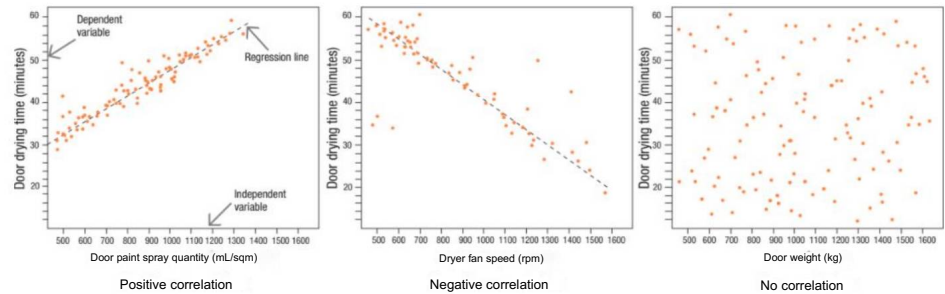

FIGURE 10.8 Scatter diagram
This diagram tracks two variables to determine their relationship to the quality of the results. Figure 10.8 shows three examples of scatter diagrams.
A regression line (or trend line) is calculated to show the correlation of variables, which can then be used for estimating and forecasting. Figure 10.8 depicts the possible resulting patterns: a proportional or positive correlation of paint quantity to drying time, an inverse or negative correlation of dryer fan speed to drying time, and no correlation between door weight and drying time.
- **Scatter diagrams** A scatter diagram can be used to control quality by comparing actual results to what was anticipated, and to estimate and forecast future outcomes based on this comparison. For review, lookback to figure 10.8 and its accompanying description in the Manage Quality section.